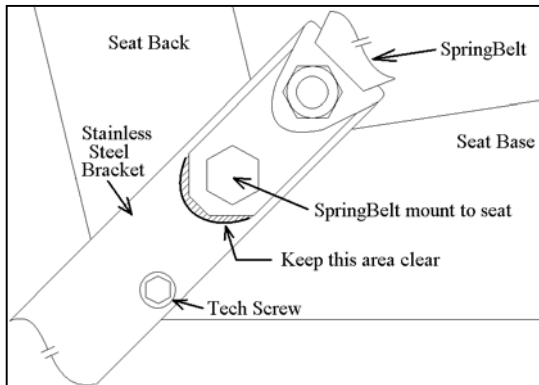

Figure 2.
1) ONE HOLE MOUNTING (Refer to Figure 2).